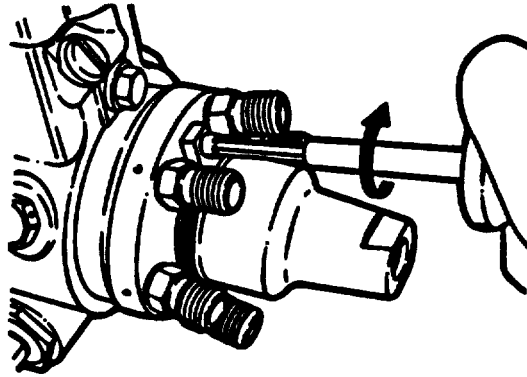

FIGURE 3-88. Installing Retaining Plate (Typical)
- cm. Install new seal (4, FIGURE 3-52), retaining plate (3), and locking screw (2) in head. Tighten screw 70 to 80 in-lbs (8 to 9 Nm), refer to FIGURE 3-88.